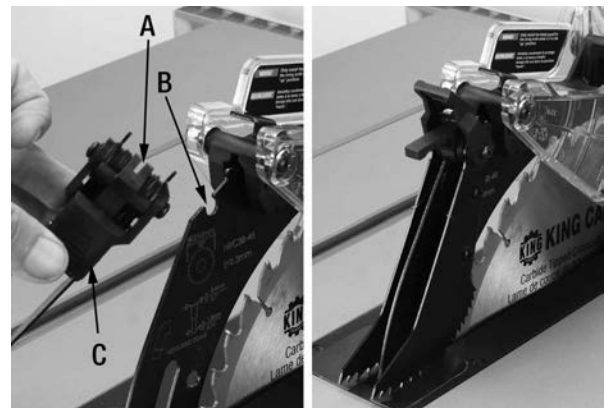

FIGURE 13
1. Align the anti kickback finger bracket slot (A) Fig.13 with the rear slot (B) of the riving knife.
2. Push the assembly down and lift the lever (C) to lock the anti-kickback finger assembly to the riving knife. Lift the assembly up to check if it was locked securely.